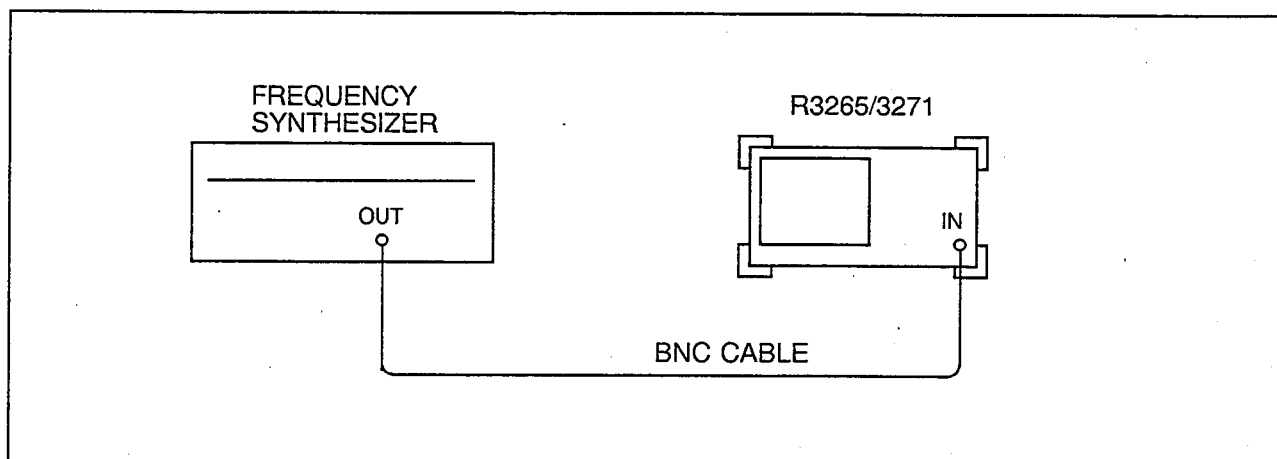

Figure 4-3 Residual FM Test Setup
- (1) Connect the equipment as shown in Figure 4-3.
- (2) Set the Frequency Synthesizer controls as follows: